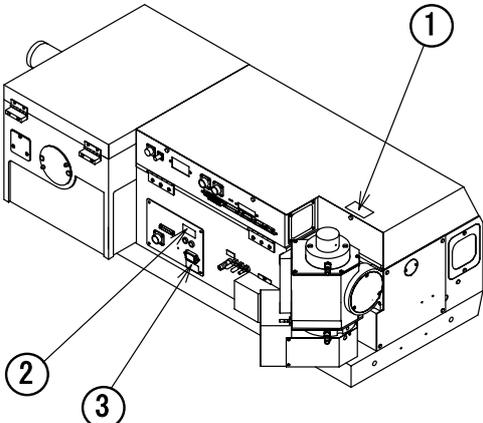

Fig. 1
1) WARNINGS! Handling the Xenon Lamp (①of Fig. 1)
WARNING! Fuse Rating (②in Fig. 1)
Use only fuses of the designated rating to protect both the operator and the equipment from fire and other hazards. When replacing the fuse, turn OFF the "Power" switch and unplug the power cable from the outlet to avoid electric shock. **WARNING!** Grounding (③ in Fig. 1)